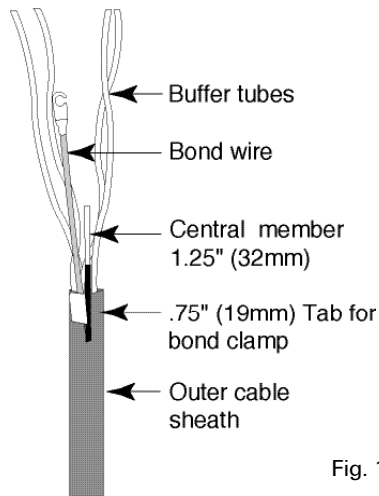

Fig. 1
4. If a shield is present in the cable, tab the cable 3/4" (19mm) from each sheath ring cut and attach a supplied bond wire to the tab in the sheath. Tape bonding wire in place. (Fig. 1)